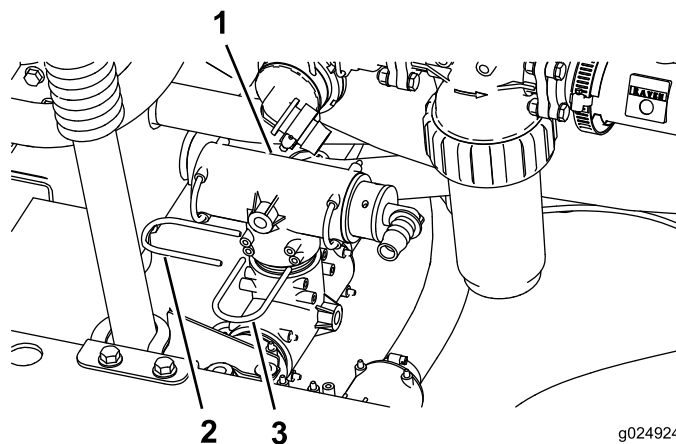

Figure 25
2. Install the tee assembly to the tee mount on the bottom left side of the rear of the machine (Figure 25).